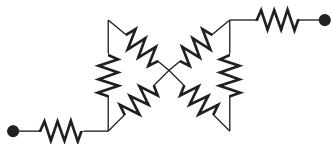

FIGURE P3.8 Circuit for Problem 3.8.
- 3.8 (A)* Find the R_{eq} in Figure P3.8, given that every resistor has an equal resistance, R (the center crossing is connected).